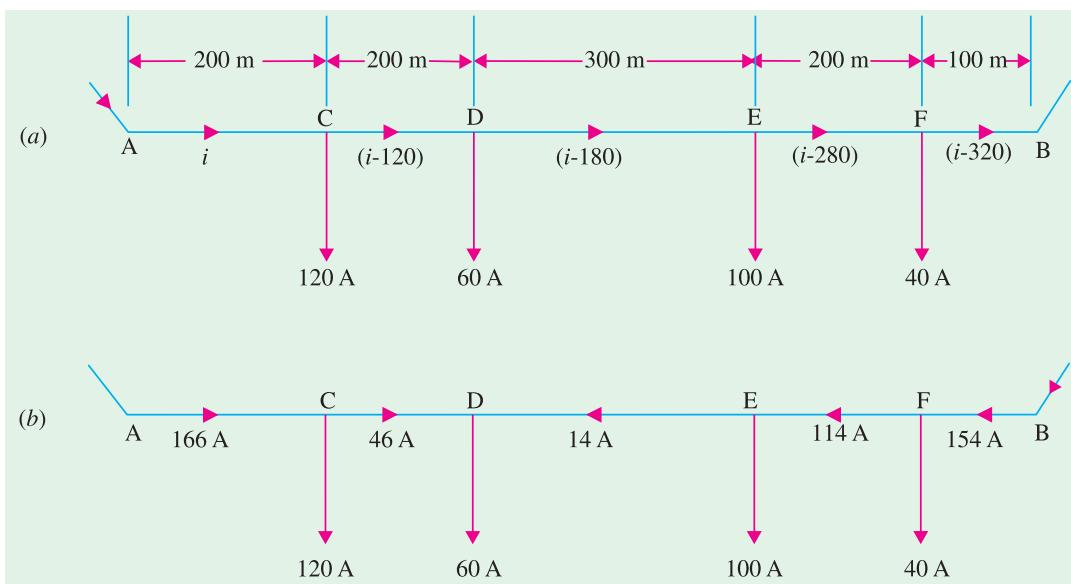

Fig. 40.26
**Solution.** Concentrated loads are shown in Fig. 40.26. Let us find out the point of minimum potential and currents at points  $A$  and  $B$ .
Actual current distribution is shown in Fig. 40.26 (b) from where it is seen that point D is the point of minimum potential. The uniform load of 0.5 A/m upto point D will be supplied from A and the rest from point B.